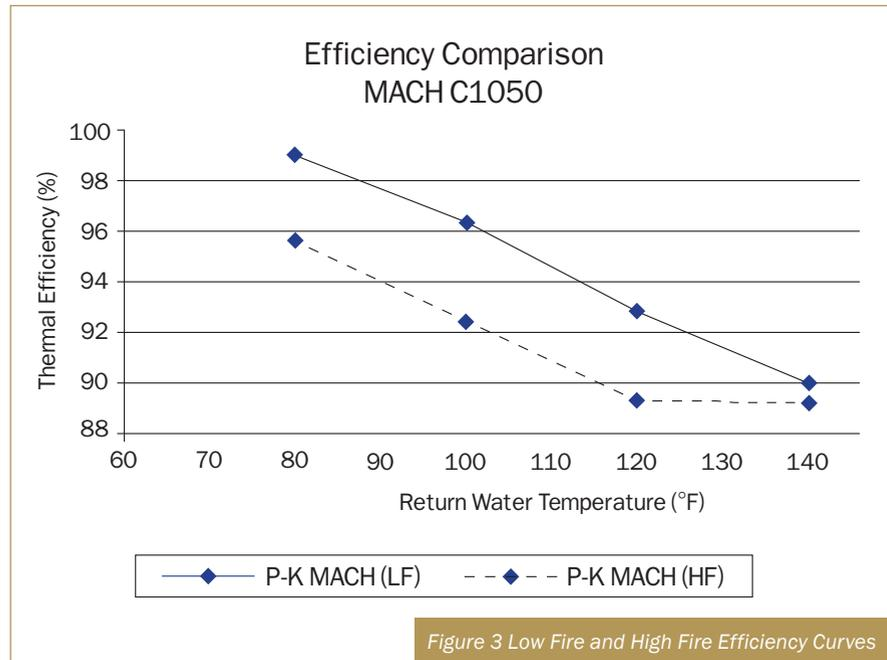

Figure 3 Low Fire and High Fire Efficiency Curves
Looking at the heat transfer equation provided previously, modulation equates to more effective surface heat transfer area (A) for the amount of heat added into the system. This effect is illustrated on the efficiency curves in Figure 3.